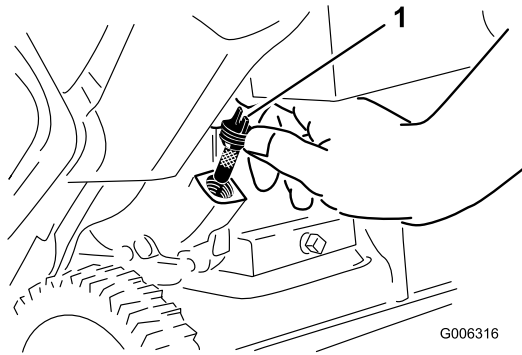

Figure 28
6. Clean around the oil fill cap (Figure 28).
7. Unscrew the oil fill cap and remove it (Figure 28).